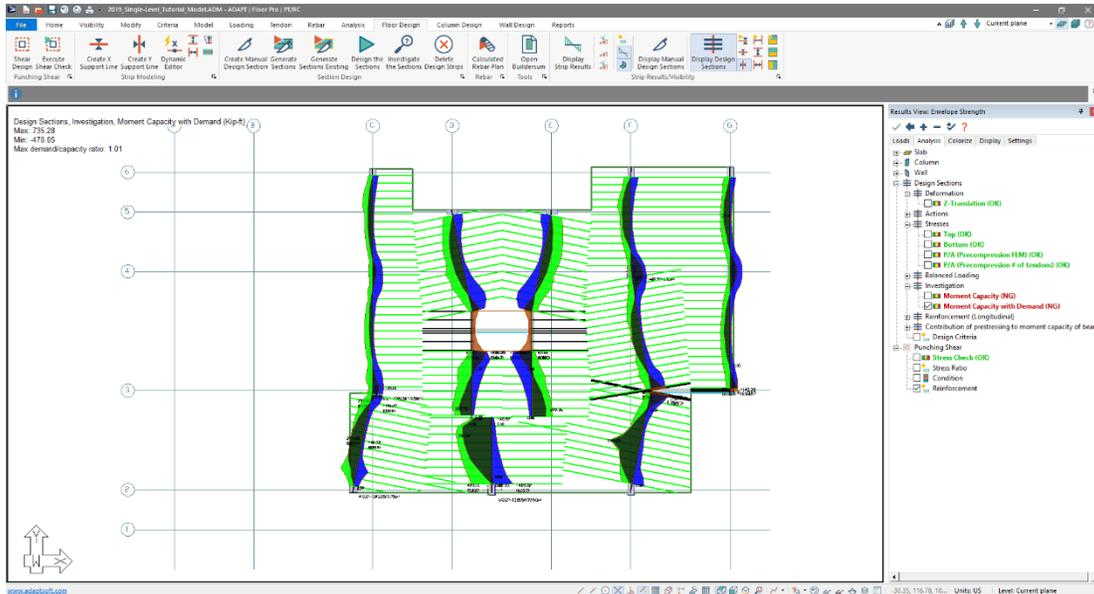

Figure 8-80
- Go to *Floor Design* → *Strip Results/Visibility* click on the *Display/Hide Support Lines in the Y-direction*  icon to turn on the support lines in the Y-direction. The user should now see the Moment Capacity Check along the Y-direction support lines as shown in **FIGURE 8-80**.